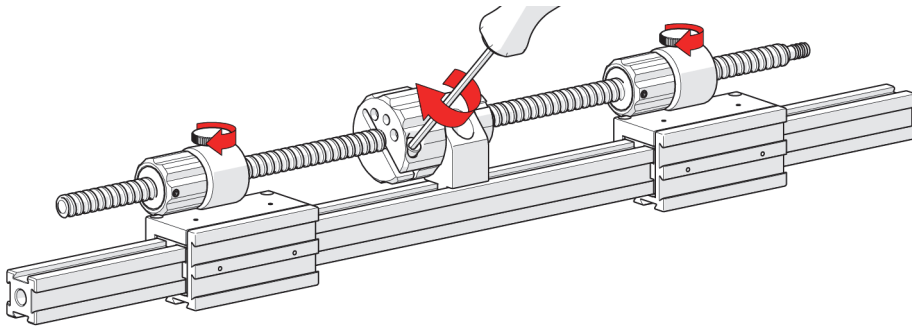

Figure 2-55 Tighten lead screw
5. Tighten the main knob's hexagonal screw (see Figure 2-55 on page 74).